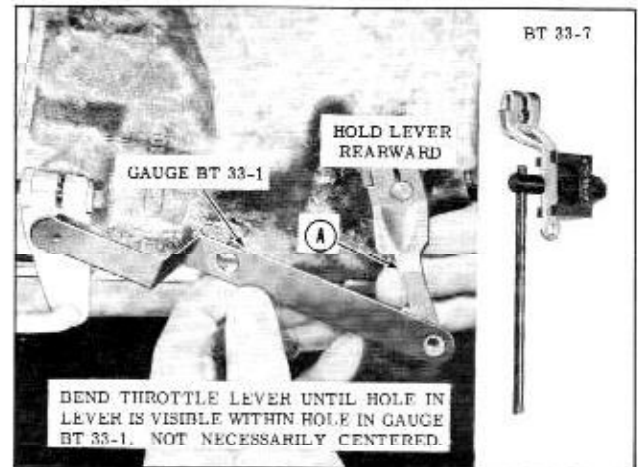

Fig. 3-135 Checking T.V. Lever Adjustment
- a. Raise car and remove clip and lower T.V. relay rod from T.V. lever "A" at side of transmission. (Fig. 3-135)
- b. Place short end of T.V. lever Gauge BT-33-1 into manual lever shaft. While holding T.V. lever at the end of its rearward travel, the T.V. lever hole should be visible within the hole in the gauge. (Fig. 3-135)